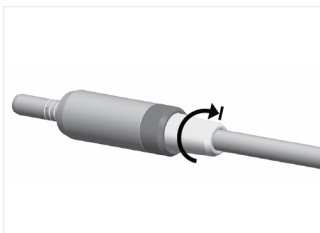

FIG. 3
4. Holding the motor fully screw the hose sleeve to the rear motor connection (FIG. 3).